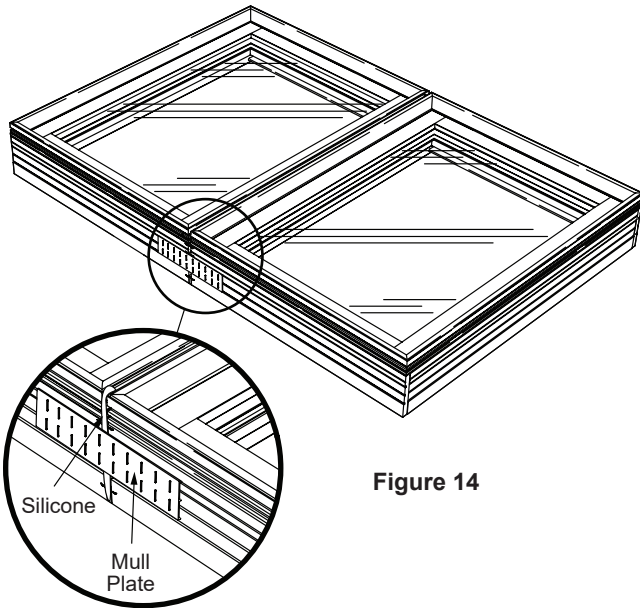

Figure 14
1. Ensure the mull joint is sealed with silicone and that the mull plate is attached. (Figure 14)